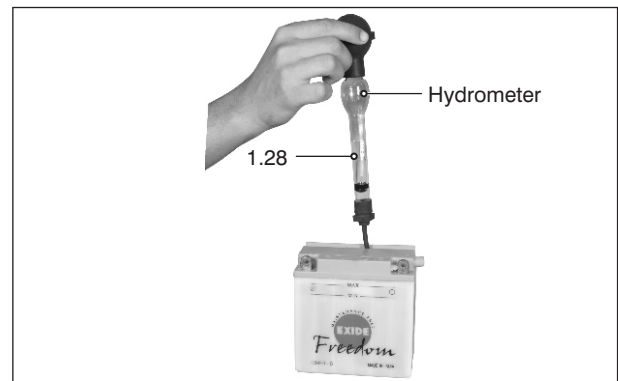

Fig. 2.109
- If the specific gravity reading is not in normal condition the battery needs charging. (Fig. 2.109) Recharge the battery with constant current battery charger (refer chapter "Electrical system" page no. 5-26 for charging procedure).